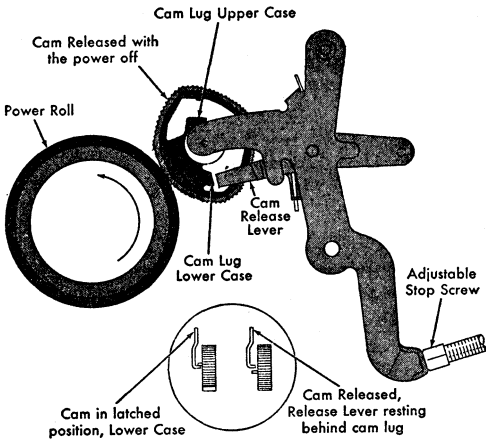

Figure 27. Shift Cam
3. CAM CLEARANCE is observed by tripping the cam with the power off and noting that the cam release lever lug comes to rest behind the cam lug with a clearance equal to the thickness of the cam lug. To obtain this clearance adjust the cam stop screw (Figure 27).